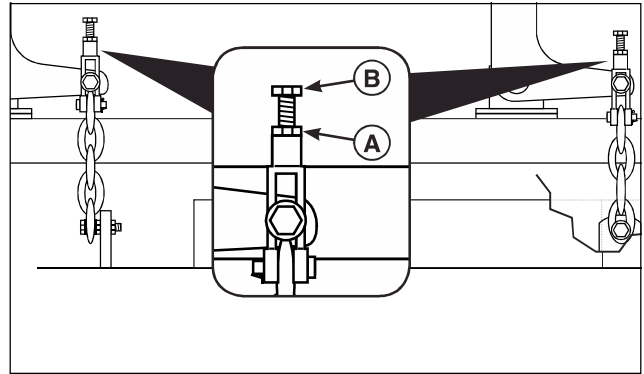

Figure 52. Fine Adjustment of the Deck Cutting Height
1. Loosen the jam nut (A, Figure 52) and turn the fine adjustment bolt (B) to adjust the deck height until the front measurement equals 4" (10,2 cm) and the back measurement equals 4" (10,2 cm).